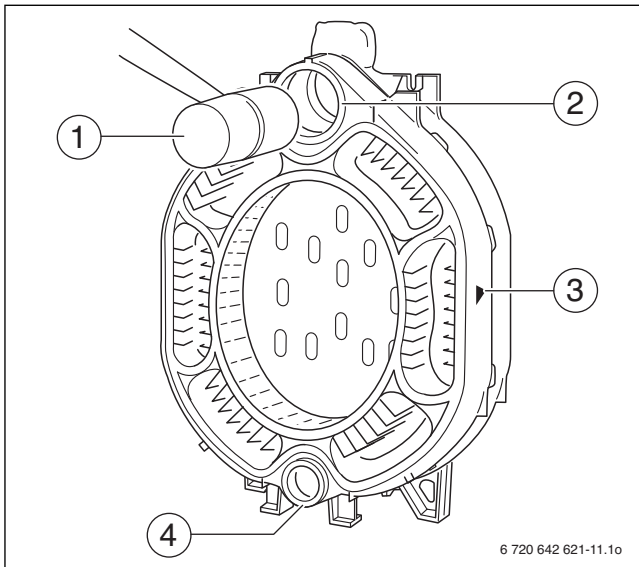

Fig. 15 Pound intermediate section in place
The directional arrow (→ Fig. 15, [3]) must point in the direction of the rear boiler section.
- ▶ Position the intermediate section so that the upper and lower hubs (→ Fig. 15, [2 and 4]) fit onto the nipples in the rear section.
- ▶ Pound first intermediate section onto the rear section using a wooden or a rubber mallet (→ Fig. 15, [1]).